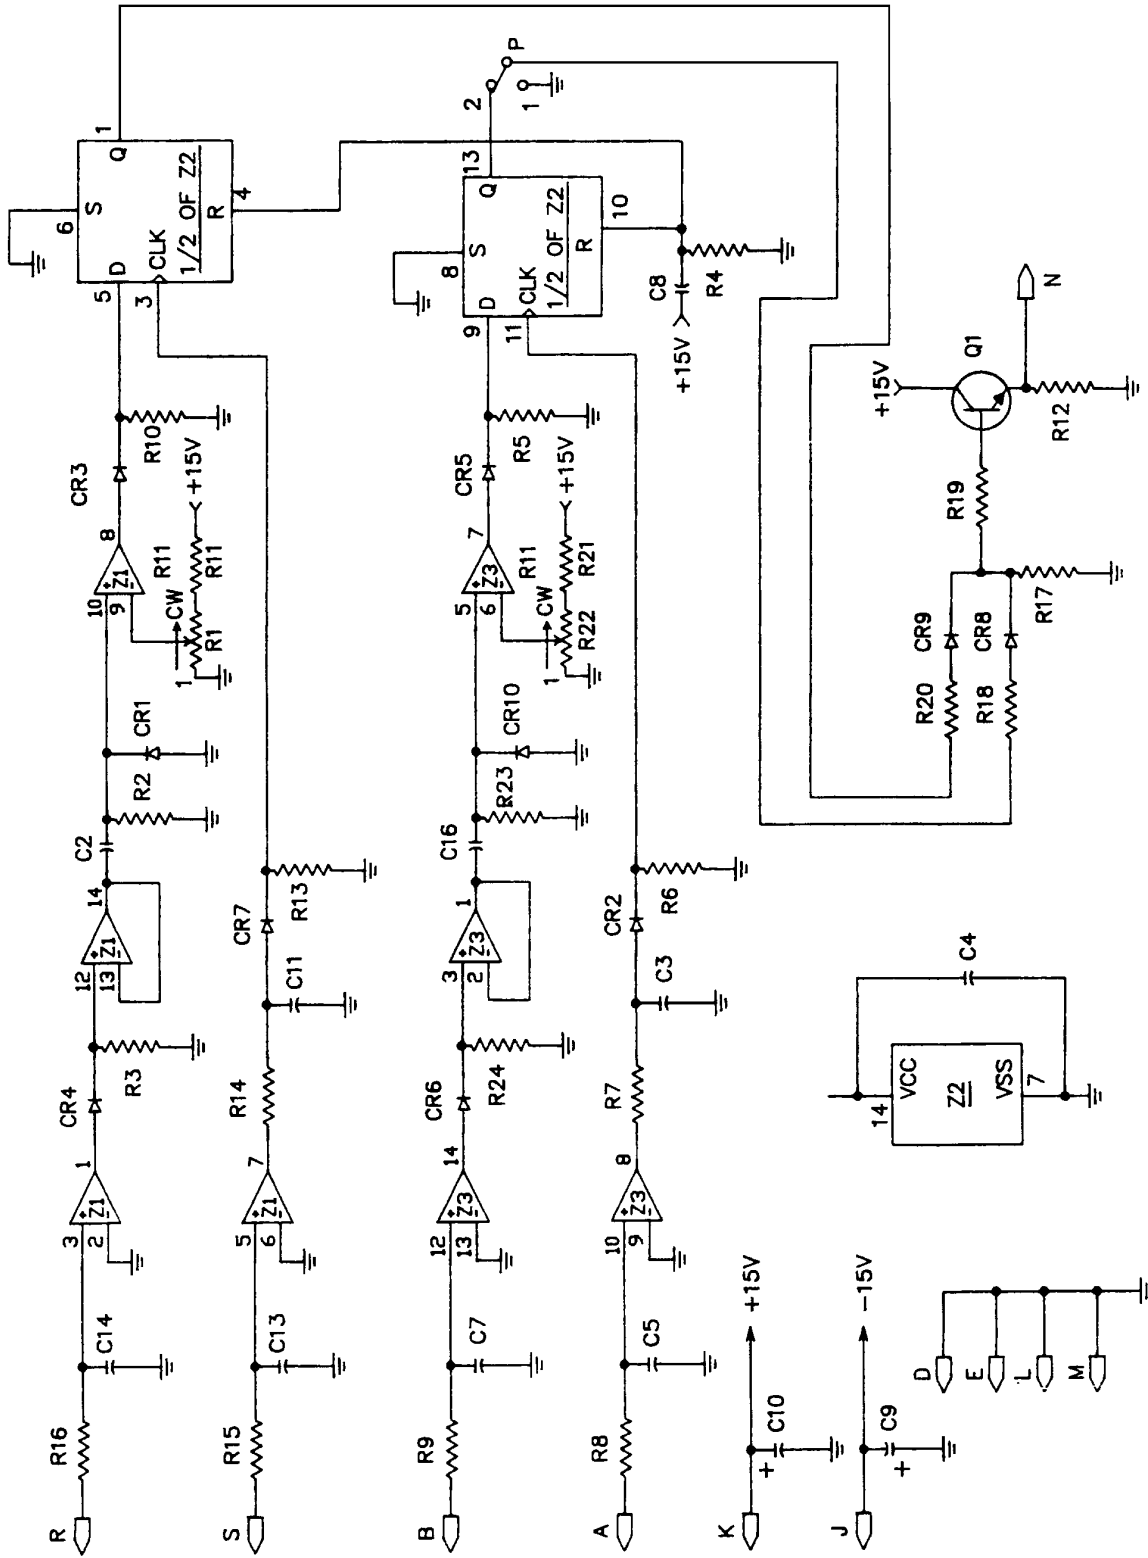

Figure 5-4. Phase Angle PCB Schematic Layout
- a. Visually inspect the PCB for poor solder joints, solder splashes, incorrect components, and incorrect diode and capacitor directions. See figure 5-4 for schematic.